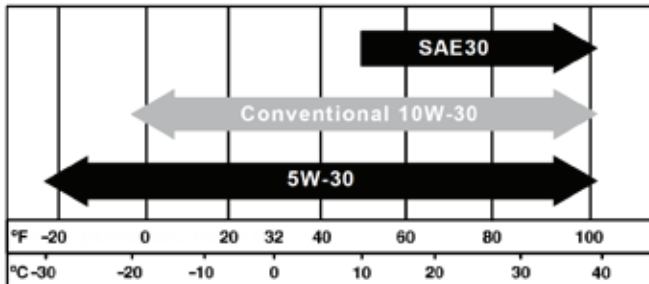

Figure 1 - Recommended Oil
1. Only use the engine oil Specified in Figure 1.